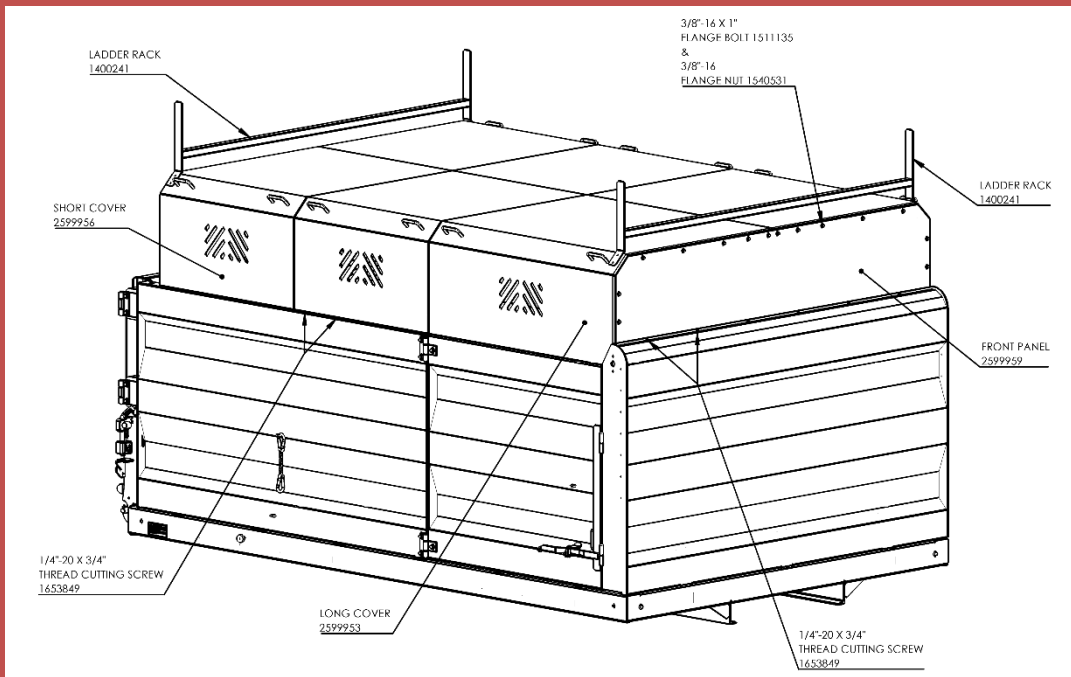
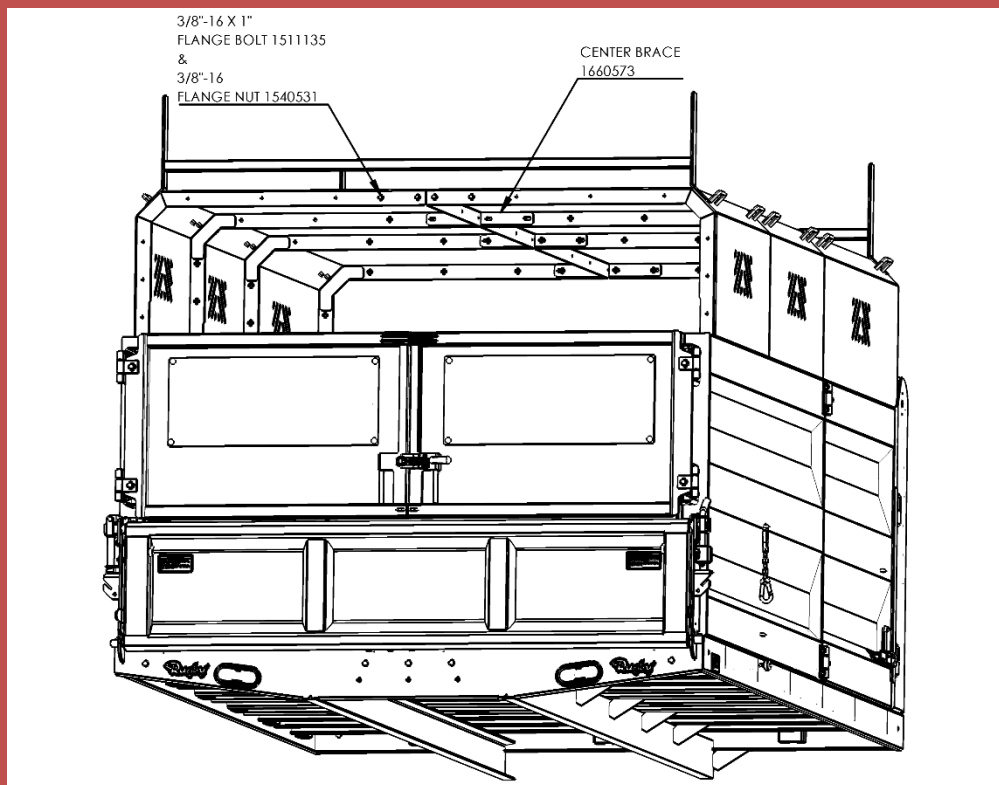

Figure 25: Installation of Chipper Cover
Figure 26: Installation of Chipper Cover
The quantity and size of the covers will vary, depending on the length of the Landscaper. A 12' body is shown. Refer to **Figure 25** and **Figure 26**.
2. Place the long cover on the body. This cover will go to the front of the body. Bolt the front panel to the cover with 3/8" X 1" Flange Bolts and Nuts. Reinforce the joints with a Center Brace (1660573), as shown in **Figure 26**.
3. Place the remaining sections on the body, and bolt to each other with 3/8" X 1" Flange Bolts and Flange Nuts. Reinforce the joints with Center Brace (1660573), as shown in **Figure 26**.
5. Attach the ladder rack to the cover using 1/4" X 3/4" thread cutting screws as shown in **Figure 25**.